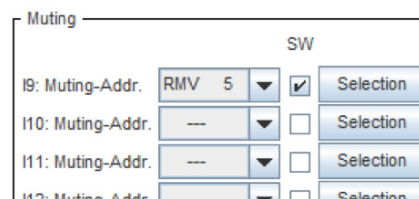

Fig. 33-2
In Fig. 33-2, the RMV would be muted. Input I9 is not needed.
- ▶ Select "Selection". (Fig. 33-2)